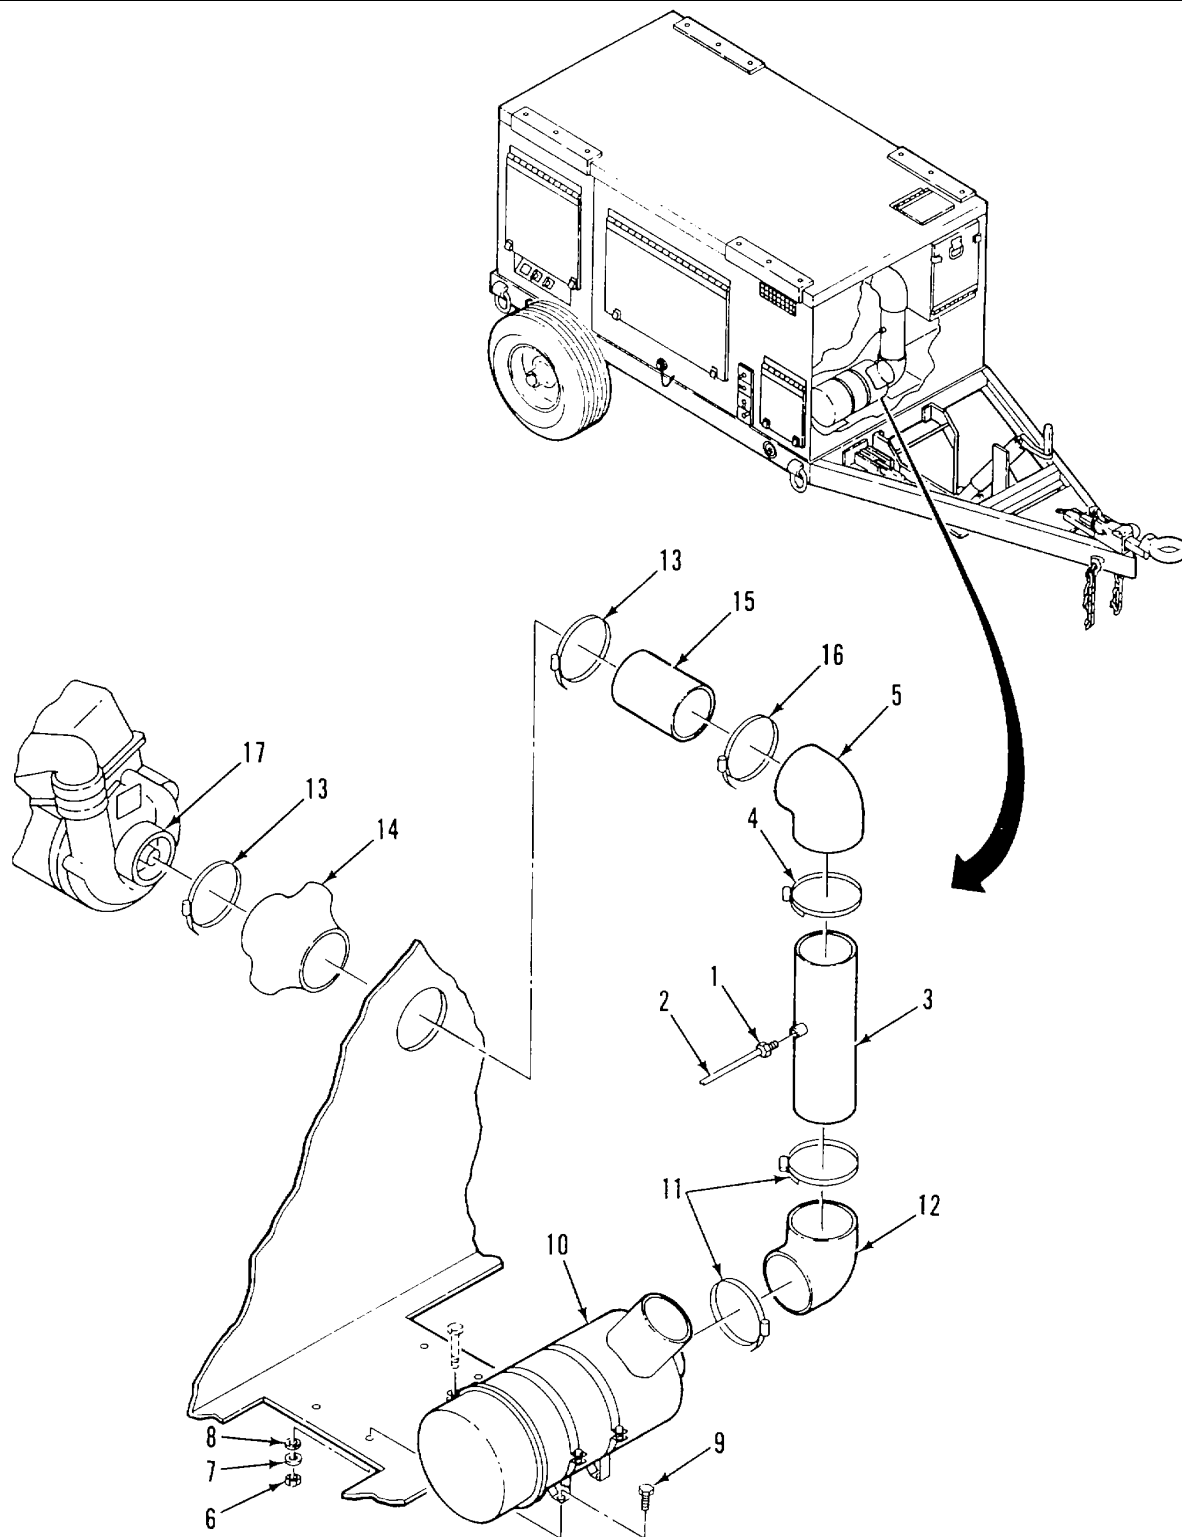

Figure 2-26. Air Cleaner
- a. **REMOVE**, (Figure 2-26)
- (1) Open air cleaner access door.
- (2) Disconnect fitting (1) of cold start aid line (2) on air inlet pipe (3).
- (3) Loosen hose clamp (4) on intake line elbow (5).
- (4) Remove nuts (6), lockwashers (7), flat washers (8), bolts (9), and air cleaner (10).
- (5) Loosen hose clamps (11) and remove elbow (12) and intake line (3).
- (6) Loosen hose clamps (13) and remove rubber flex hose (14) with pipe (15) from engine turbocharger (17).
- (7) Loosen hose clamp (16) and remove elbow (5) from pipe (15).